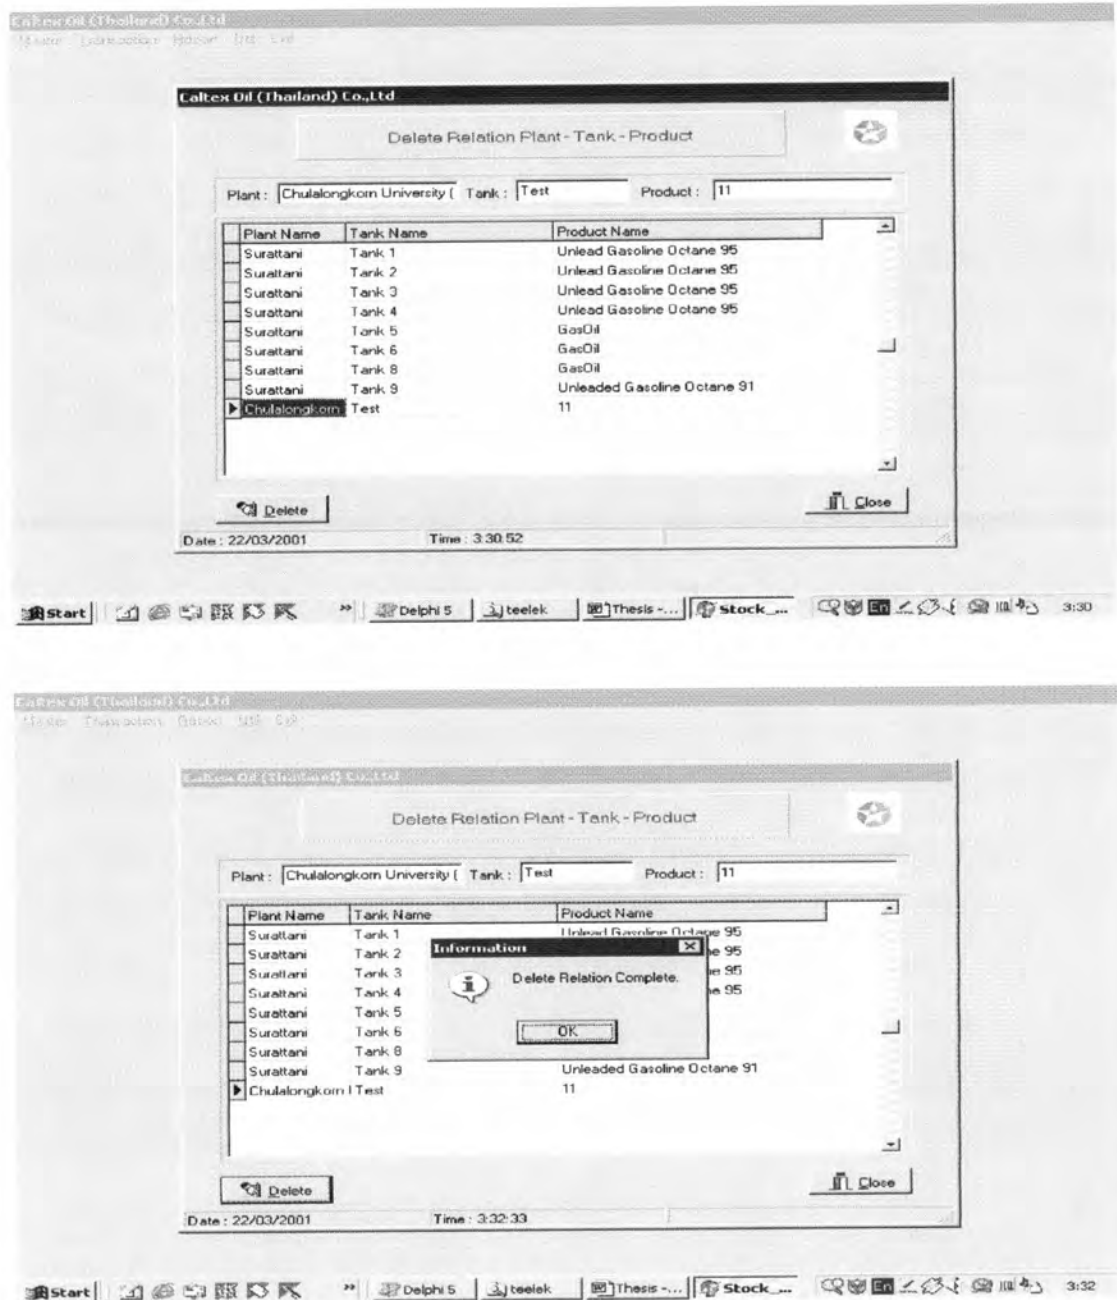

Figure 4-20 Delete Relation Product Menu
b) Edit / Delete Relation Product data (see figure 4.20)